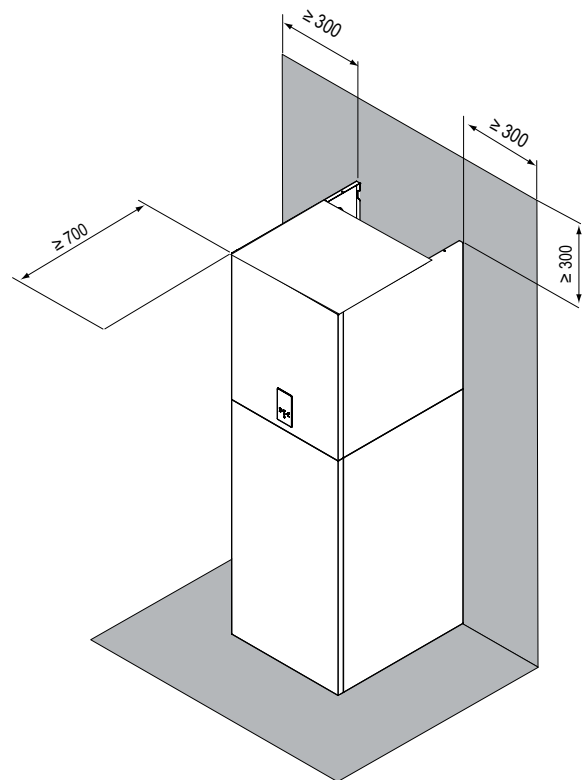

fig. 8 - minimum operating area for indoor unit
- The space around the unit is adequate for servicing, see fig. 8.